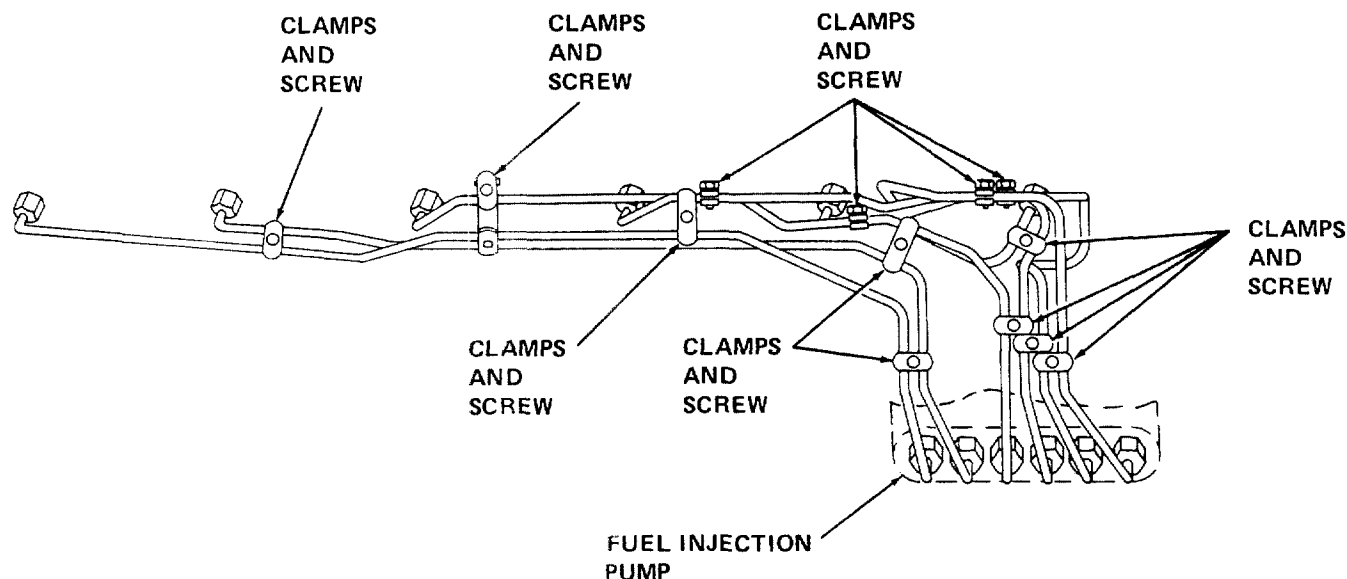

Figure 4-48. Fuel Injection Lines, Removal and Replacement
a. Inspection of Fuel Injection Lines. Refer to figure 4-48 and inspect lines, for leaks, deformation and security of attachment. Cracked or missing paint may indicate a leak.
b. Replacement of Fuel Injection Lines. When fuel injection lines are removed from the engine put identification tags on the fuel lines as they are removed, so they can be put in the correct location when they are installed (see figure 4-48).
(1) Remove defective lines, as required, by loosening the nuts which secure the line to the fuel injection pump and fuel injection valve.
(2) Remove clamps and screws as required.
(3) Install new lines by first securing line to fuel injection pump and fuel injection valve. Tighten the fuel line nuts to 30 \pm 5 foot-pounds (40 \pm 7 Newton-meters).